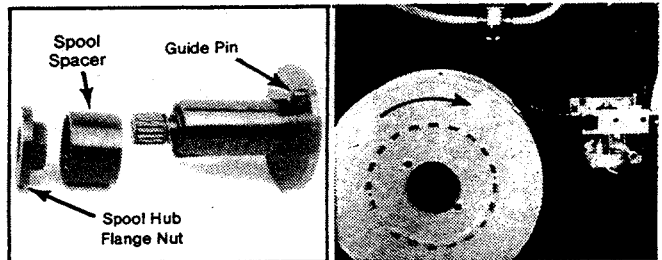

Figure 10
4. Remove spool hub flange nut. See Figure 10
5. Carefully unpack the wire. With narrow spools put the wire on first, then install the spool spacer. Be sure that the wire unwinds from the top in a clockwise direction and that the guide pin on the wire spindle aligns with the hole in the back side of the wire spool. Rock the wire spool back and forth on the spindle to verify that the guide pin is in position. See Figure 10
6. Reinstall spool hub flange nut to hold spool on hub. See Figure 10